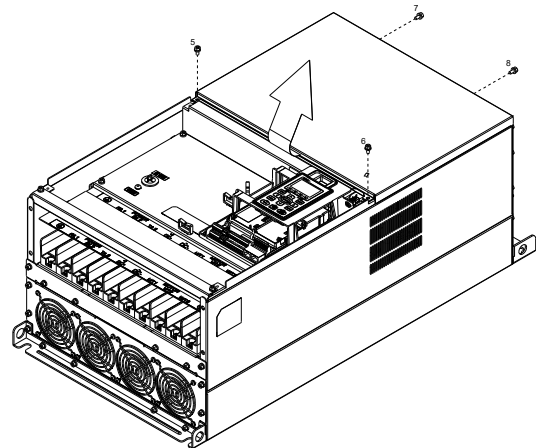

Figure 2
2. Loosen the screw (figure 2) and removes the cover.